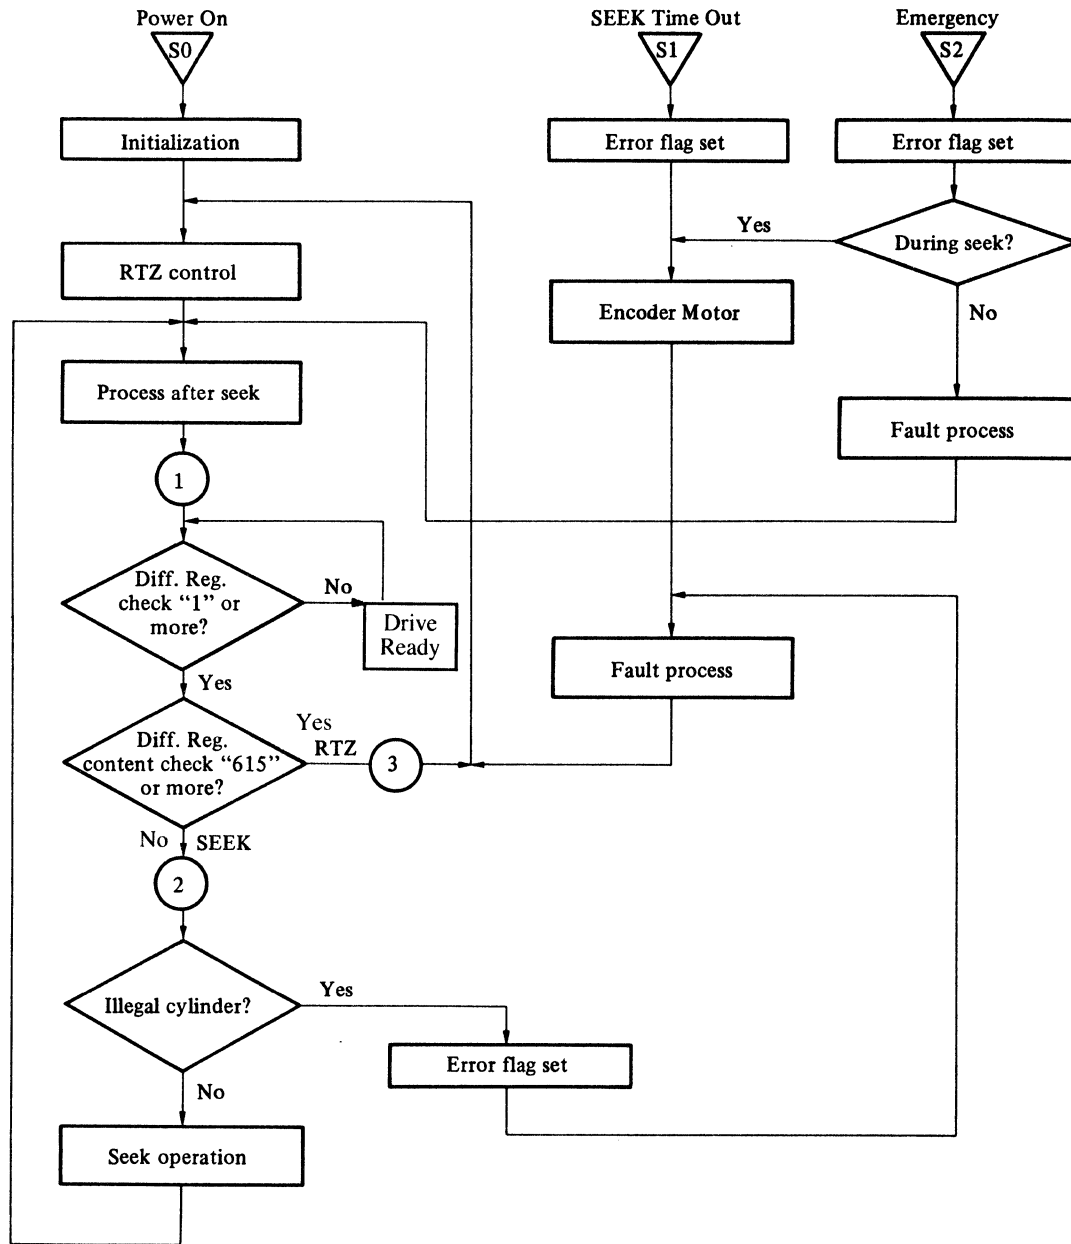

Figure 3.11 Control flowchart
Figure 3.11 shows the flowchart from power-on, to drive ready and the next Seek instruction sequences.
As shown in Figure 3.11, on first powering on, an initialization sequence begins (zero-clearing each memory and register and RTZ initial seek). After the RTZ operation, several processes (Ready, SKC and Track 0 process) are performed and the flow enters into the routine indicated by ①. The Difference register check is idling and awaits the seek instruction from the controller. As mentioned in the Interface section, this register stores the number of step pulses (actually difference value) in slave mode, and sends it to the MPU. If that number is equal to or more than 615, the seek instruction is converted into a RTZ instruction ③. If less than 615, it is processed as a seek instruction ②.